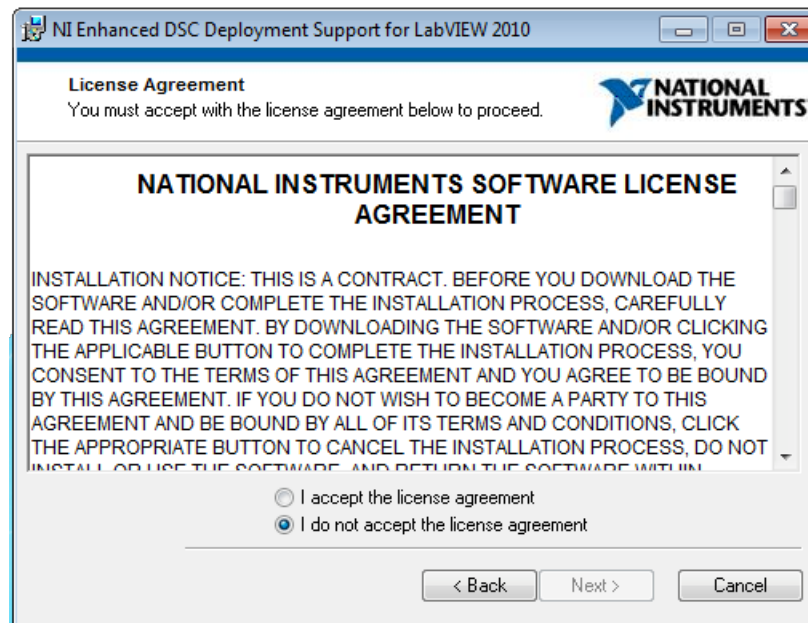

Figure 26. LabVIEW RTE License Agreement
4. The License Agreement appears as shown in Figure 26. Read through the agreement carefully and enable the “I Accept the License Agreement” radio button, then press the *Next >* button.